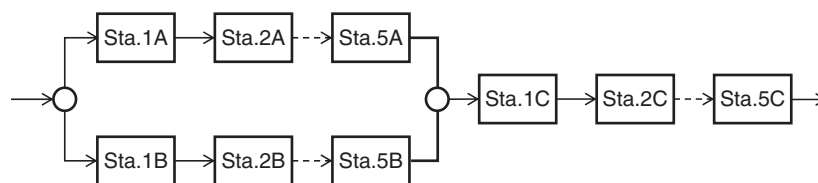

Figure 7.30
- 7.3** A manufacturing system comprises two parallel subsystems and one serial subsystem, each with five workstations, as shown in Figure 7.30. The workstation reliability values in the parallel subsystems A and B are 0.97, and those in the serial subsystem C are 0.98. All subsystems have five workstations. Calculate the system's reliability when operating at full capacity (all subsystems working) and at half capacity (one parallel subsystem working with the serial subsystem). (Refer to Table 7.6 for a parallel system analysis.)